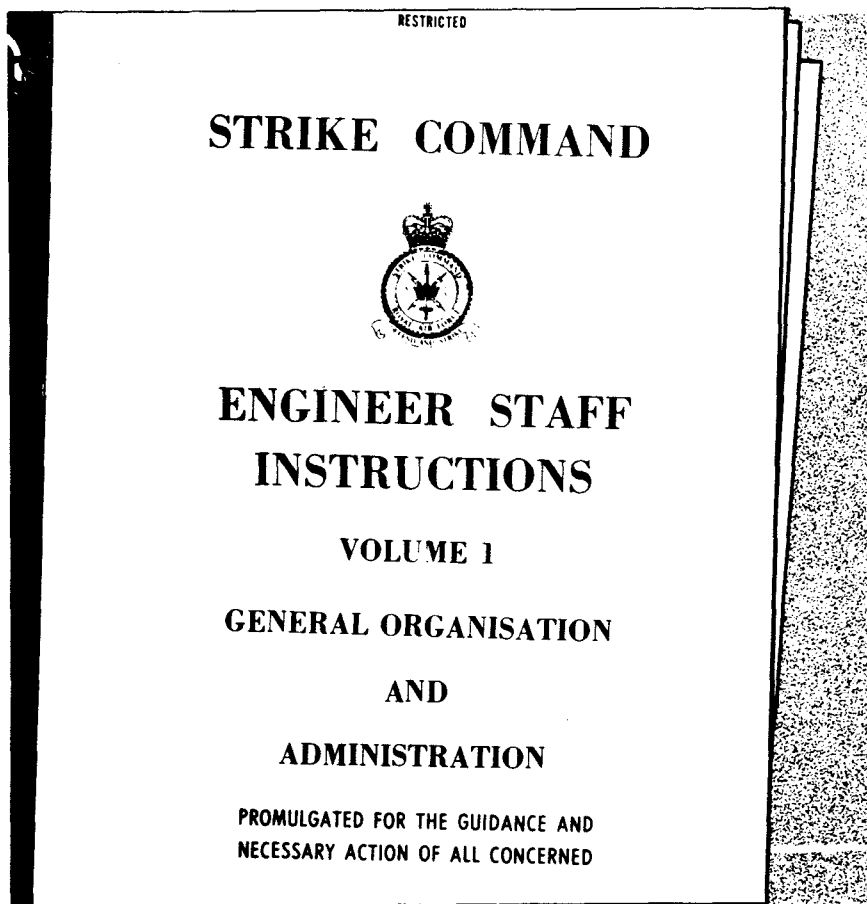

Fig 24.8 Command Engineering Staff Instructions
33. These are leaflets issued by the Engineering branch of a particular Command Headquarters (Fig 24.8). They are used to convey to persons within the Command, Command orders, special instructions, and modifications. They give the Command application of the technical orders and instructions contained elsewhere — *eg* in GAIs Vol 3 (Engineering). Command Eng SIs form the basis from which Unit Servicing Orders (USOs) can be compiled. Eng SIs are preceded by two or three letters which indicate the Command originating them — *eg* 'STC Eng SI' (issued by Strike Command). The instructions are amended in a manner similar to that of APs.